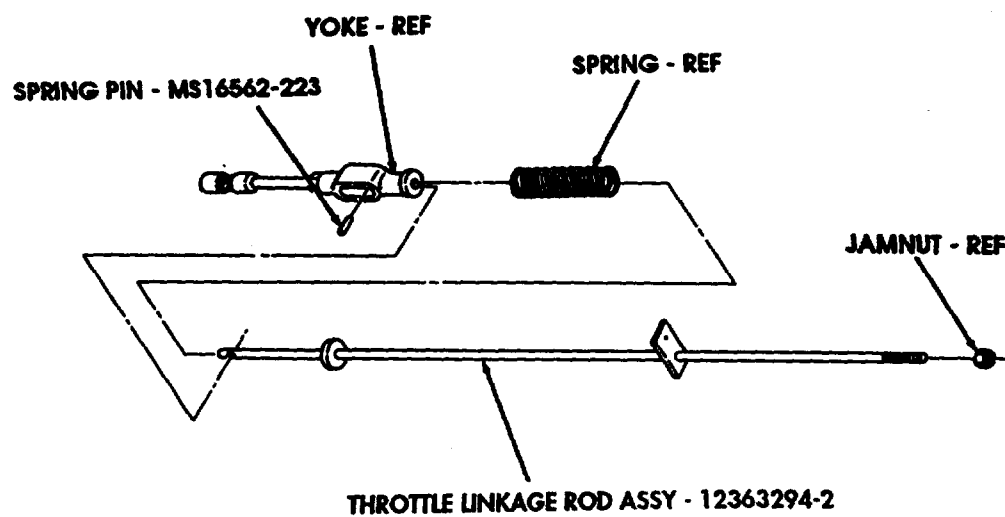

FIGURE 10
- (9) Install spring and yoke on 12363294-2 throttle linkage rod assembly with MS 16562-223 spring pin as shown in figure 10.
- (10) Install jamnut on throttle linkage rod assembly (12363294-2) to previously noted position as shown in figure 10. Finger tighten jamnut.